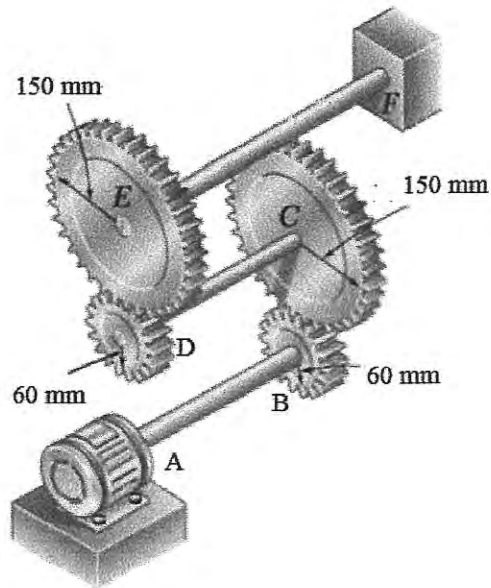

Figure Q4
- (b) Three shafts AB, CD and EF and four gears as shown in **Figure Q4 (b)** are used to form a gear train that will transmit power from the motor A to a machine tool at F. (Bearings for the shafts are omitted in the Figure). You as an assistant Engineer was asked by your supplier to solve the problem as listed below.